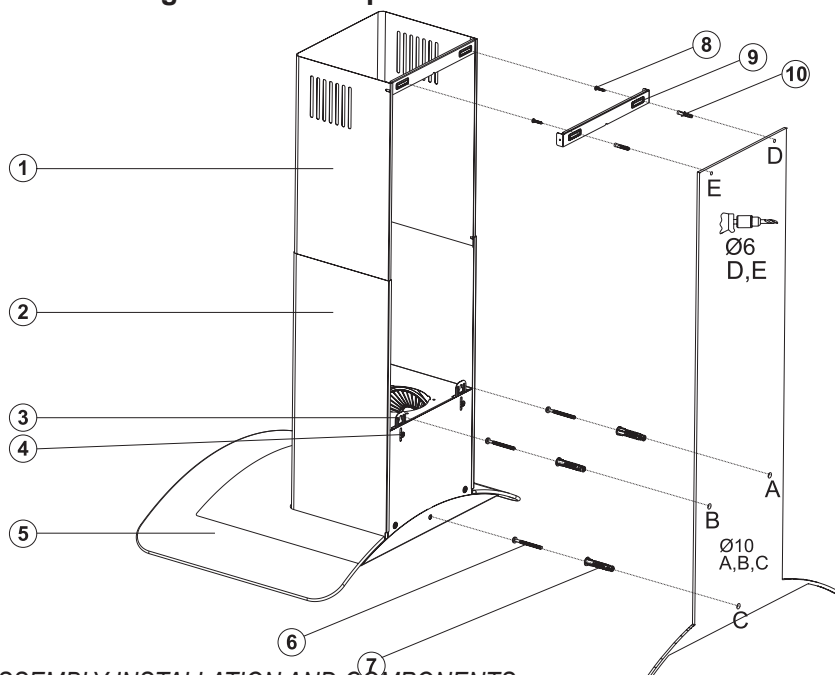

Fig. 10: ASSEMBLY INSTALLATION AND COMPONENTS
■ Loosening the product hanging plate fixing screw (4) pull the hanging plates (3) upwards, and fix the hanging plate by re-tightening the fixing screw. Fig 10
specified height (See the minimum and maximum distances intended for the worktop, in the assembly pattern). Perforate points A, B and C. (Fig. 10)
■ Insert Ø10mm dowels (7) into the holes drilled as A, B, C and D, and screw down the screws at the points A + B so that 5mm space remains between the screw head and the wall. (Fig. 10)
The cooker hood is set in the midst, and then the flue connecting plate (3) is directly affixed to the wall, under the cover or points E and F are marked after performing a measurement. (Page 16 Fig.10)
Drill points E and F with Ø6mm drill bit, and insert Ø6mm and plastic dowels. Insert the flue connection plate with 3.9x22 screws (Page 16 Fig.10)